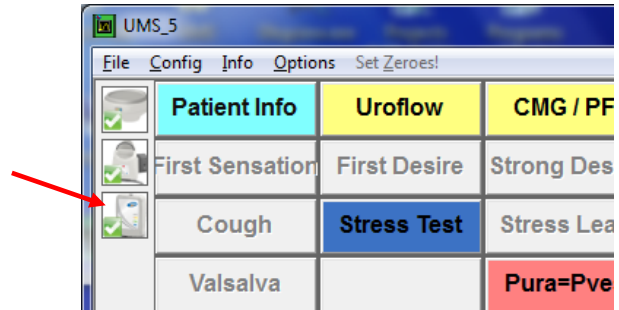

Figure 111: Access Goby Device Manager – UDS Roam™
2. Start the UDS120 Goby software and double-click the UDS Roam™ icon in the main window to open the Goby Device Manager window (Figure 111).